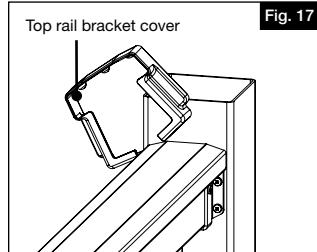

Fig. 17
- c. Open the top rail bracket cover to allow it to wrap around the top rail (Fig 17). While open, make sure the "tab" fits behind the rail and against the post.